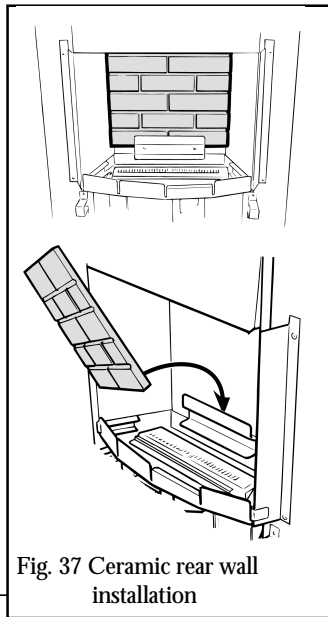

Fig. 37 Ceramic rear wall installation
13.1 With its feather edge at the top, place the ceramic rear wall into the channel at the back of the firebox. Push the wall flat against the rear of the fire box. (See figure 37).